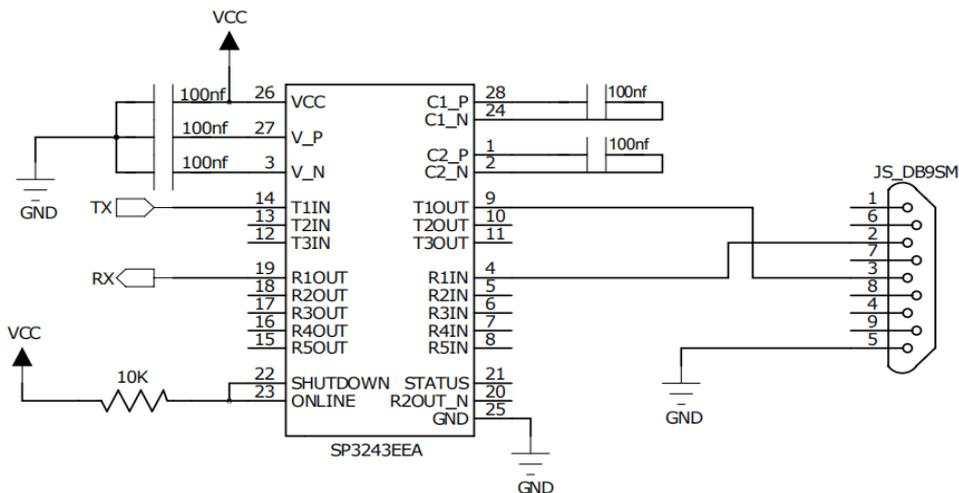

Figure 6-2 Reference circuit for connecting the F8L10C to PC RS232
1. PC as host computer: F8L10C is connected with PC through RS232 serial port, and it needs to use RS232 chip conversion (such as SP3243), as shown in Figure 6-2.